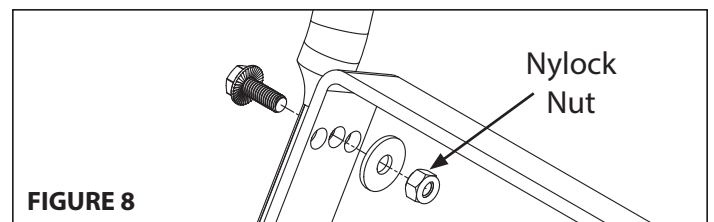

FIGURE 8
- NOTE: Plastic side of Nylock nut must face away from bolt head during assembly. SEE FIGURE 8**